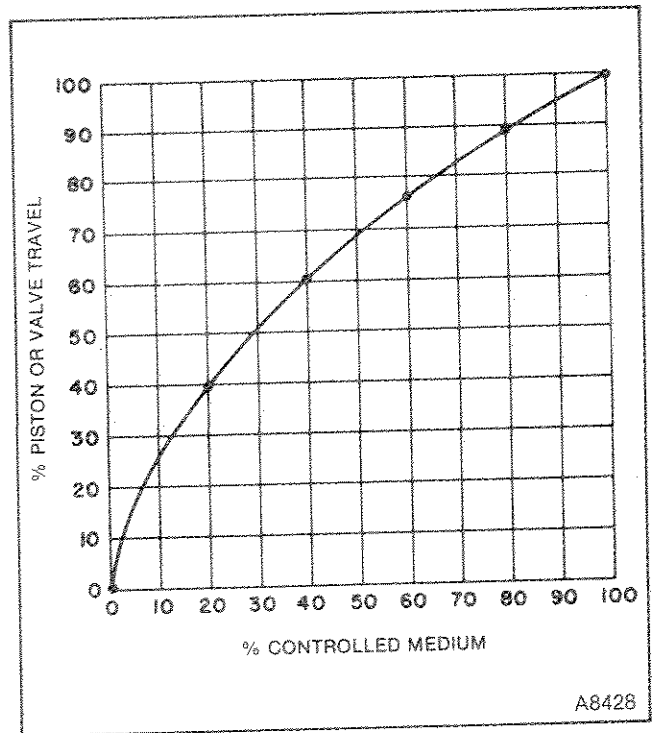
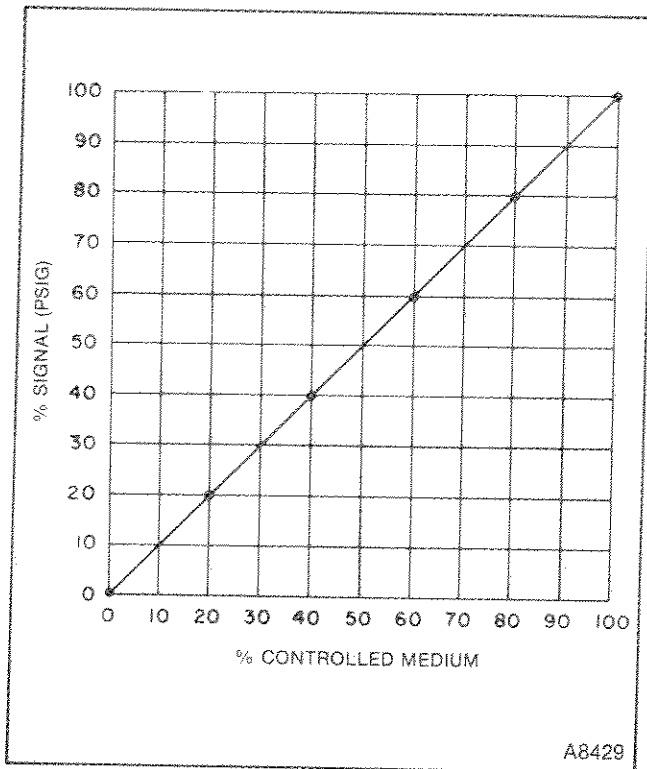
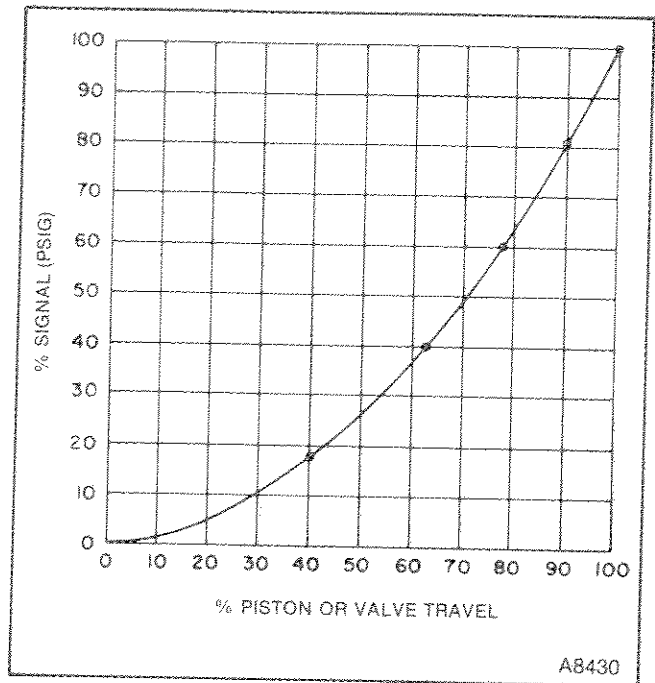

FIGURE 8 — Regulated Device Characteristics
FIGURE 9 — Desired Control
FIGURE 10 — Cam Characteristics
1. With the B (straight line) cam in place, determine and plot the actual controlled medium versus piston (or valve) position characteristic by manually adjusting valve position and measuring the controlled medium (Figure 8).
This is usually a linear function (Figure 9).
3. Using values determined in Steps 1 and 2, plot a curve for the exact control signal pressure versus piston (or valve) characteristic that will produce the results of Figure 9 from a cylinder or actuator which performs as in Figure 8. In the examples shown, the required curve is a mirror image of the Step 1 curve taken about the Step 2 curve (Figure 10).